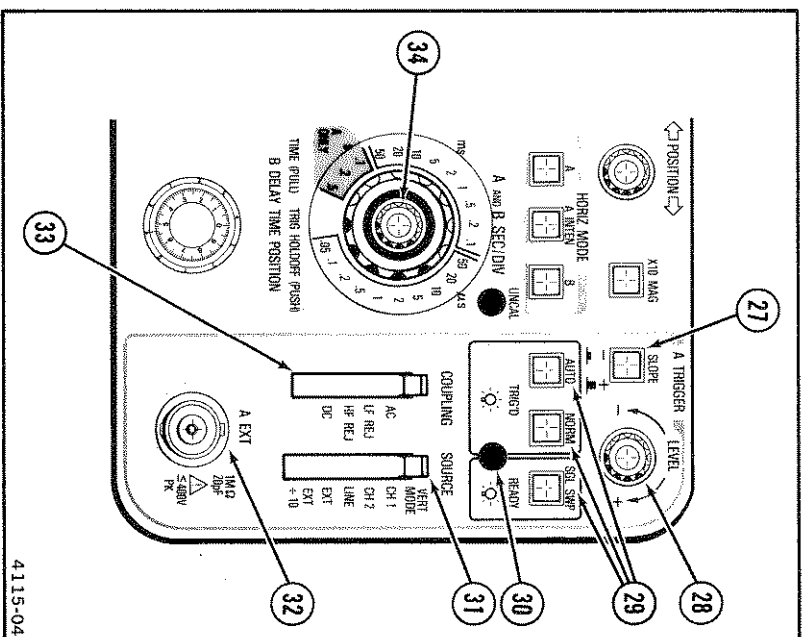

Figure 6. Trigger controls, connector, and indicator.
Refer to Figure 6 for location of items 27 through 34.